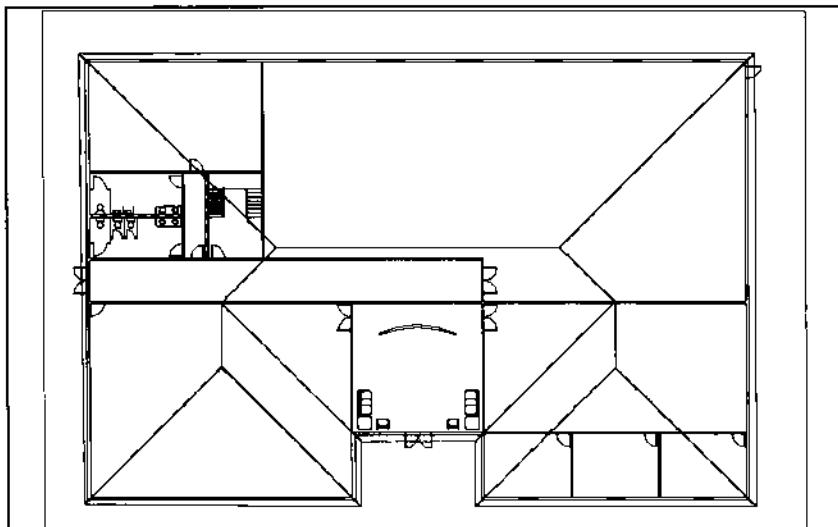

Figure 8.
5. The drawing should appear as shown in Figure 8.